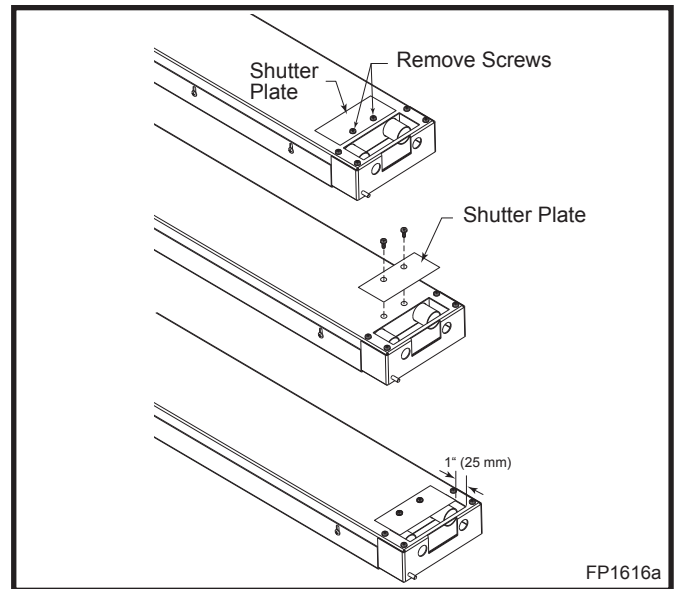

Fig. 31 Turn shutter plate over to cover opening.
4. Turn the burner housing upside down. Remove the two (2) screws securing the shutter plate to the bottom of the burner. Turn the shutter plate around so the bottom opening is 1" (25 mm). Replace the screws removed earlier. (Fig. 31)